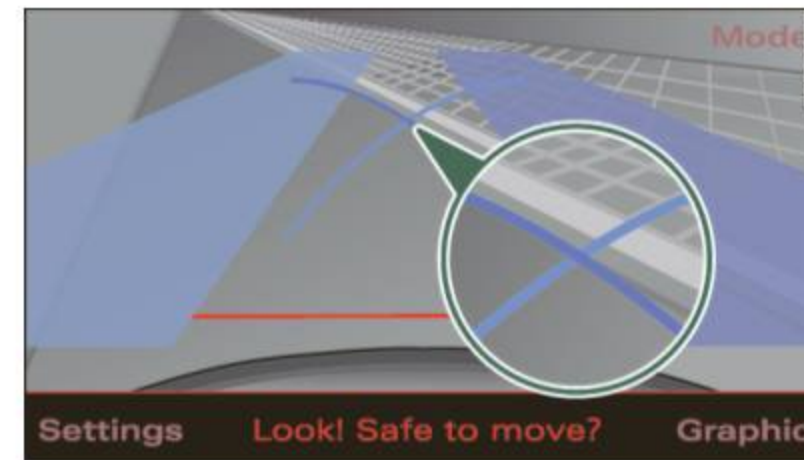

Fig. 153 MMI Display: Contact of the blue curved line with the curb
- Stop the vehicle as soon as the blue curve ⇒ *page 142*, fig. 153 touches the curb.
When there is an obstacle (such as a wall) next to the parking spot, choose a spot with more space on the sides. Position the long side of the blue area so that there is sufficient space from the curb. The area must not be on the curb. You will also need to start turning the steering wheel much earlier. There should be a sufficient amount of space between the curb and the blue curve, and the blue curve ⇒ *page 142*, fig. 153 must **not** touch the curb.